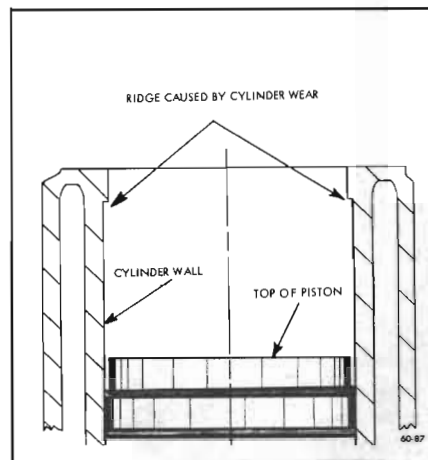

Figure 60-87—Ridge Formed By Rings At Top Of Travel
2. Examine the cylinder bores above the ring travel. If bores are worn so that a shoulder or ridge exists at the top of the cylinder, remove the ridges with a ridge reamer to avoid damaging rings or cracking ring lands in pistons during removal. See Figure 60-87.